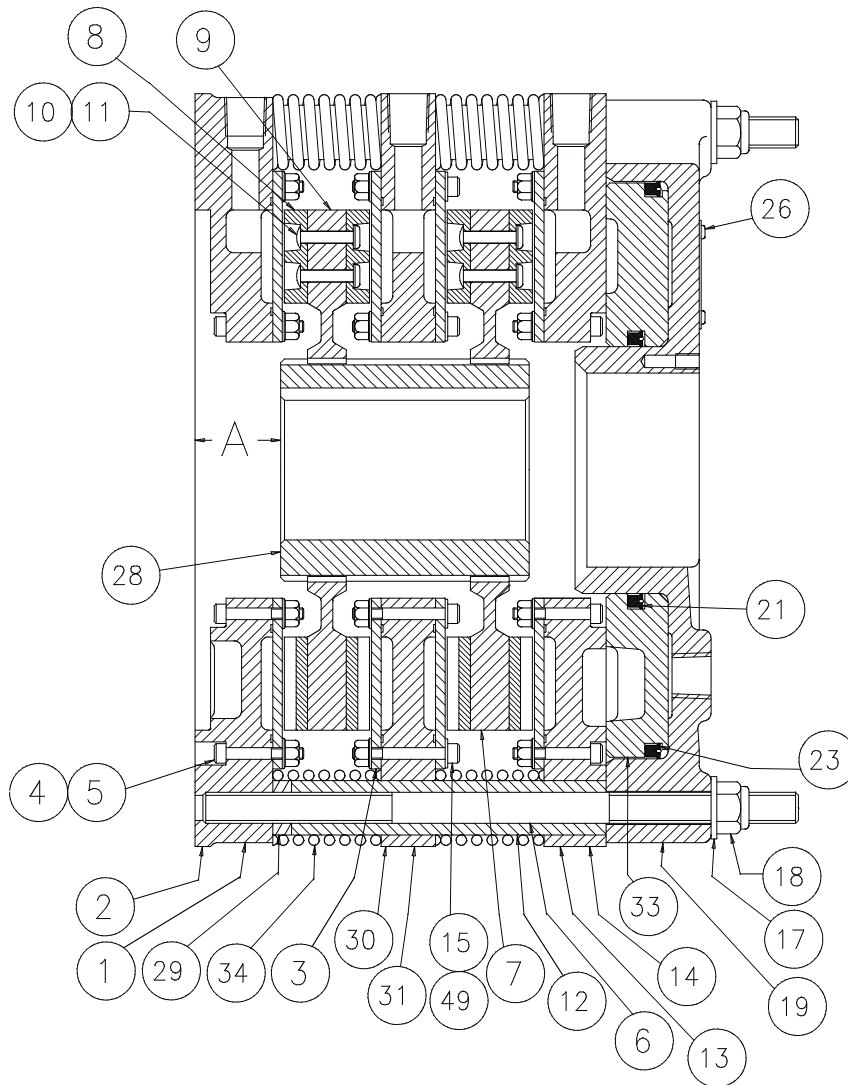

Figure 1
1.2.1 Referring to **Figure 1**, the gear (28) is mounted on the shaft which is to be stopped and the tensioner assembly is attached to the machine frame or a reaction bracket.
2.1.4 Refer to Table 3 for the setup dimension between the tensioner mounting surface and the end of the gear (dimension "A" on **Figure 1**). Gears should be positioned to ensure that - when the tensioner is mounted - the disc splines will not overhang the end of the gear when components are in both new and worn conditions. The gear is typically bored and keyed for a resulting Class FN2S interference fit for inch shafting and ISO System S7h6 for metric shafting. Contact Airflex Application Engineering for specific recommendations.
- 2.2.4 Heat the gear uniformly to 250°F (121°C) to expand the bore and ease assembly. Press the gear onto the shaft, making sure that the dimension between the gear and the tensioner mounting surface ("A") is maintained. See **Figure 1** and Table 3. Allow the gear to cool.